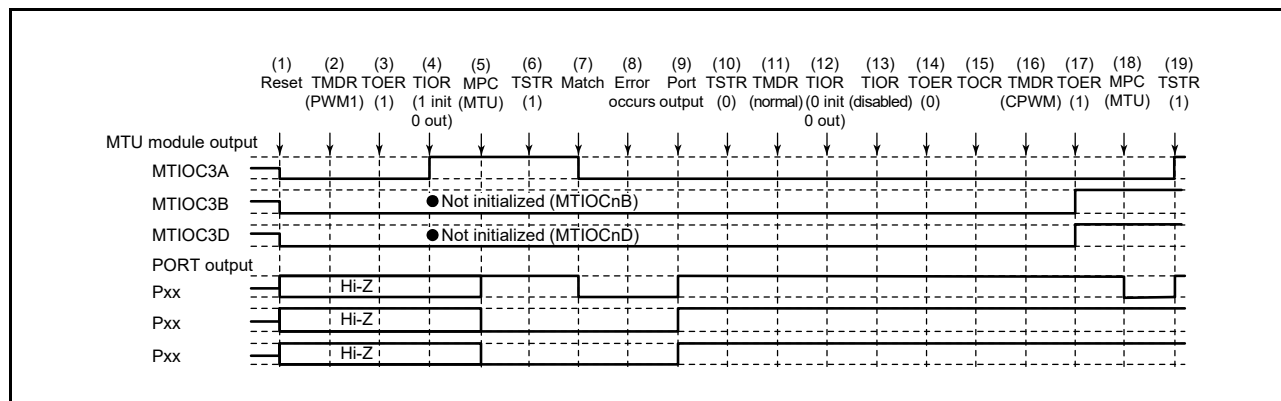

**Figure 19.153 Error Occurrence in PWM Mode 1, Recovery in Complementary PWM Mode**
Figure 19.153 shows a case in which an error occurs in PWM mode 1 and operation is restarted in complementary PWM mode after re-setting.
(1) to (14) are the same as in Figure 19.153.
(15) Select the reset-synchronized PWM output level and enable or disable cyclic output with registers TOCR1A and TOCR2A.
(16) Set reset-synchronized PWM mode.
(17) Enable output in MTU3 and MTU4 with the TOERA register.
(18) Set MTU output using the MPC and port mode registers (PMR) corresponding to the I/O ports.
(19) Restart operation by setting the TSTR register.